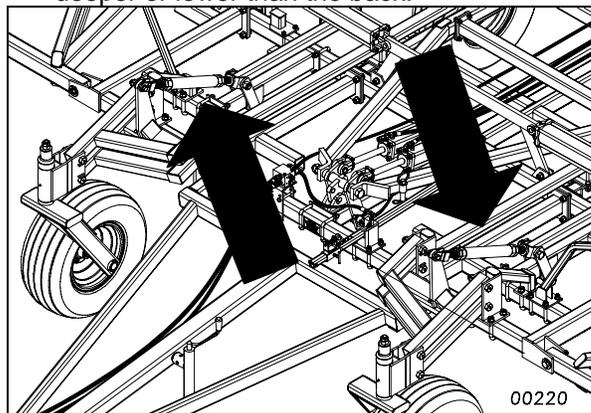

Figure 1
- Pre-leveling of machine can be done on a concrete slab or good level surface. Lower machine so sweeps are 1-2" off of ground on the center frame. Adjust the turnbuckles on the front caster wheels (Figure 1) to level it from front to back. (Shorten to bring front down, extend to bring front up.) Level machine with the front row shanks just slightly deeper or lower than the back.